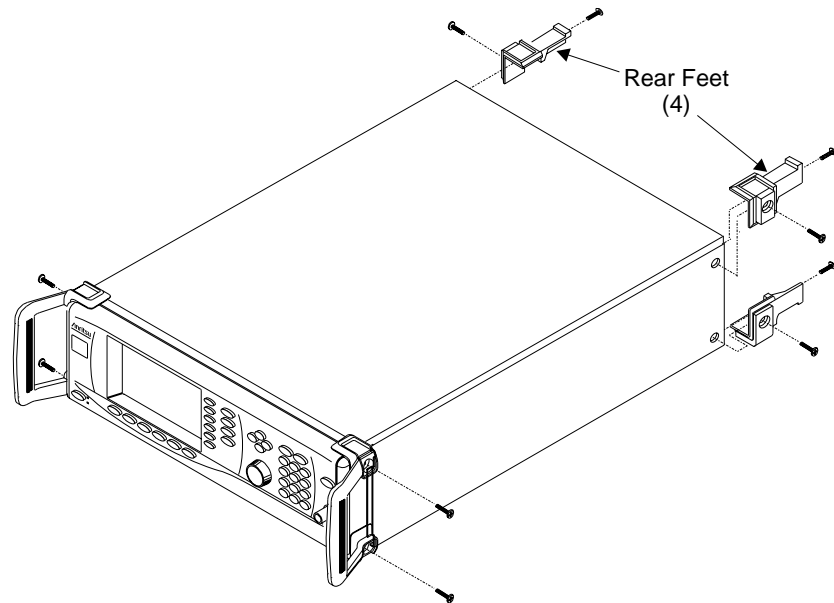

Figure 6-1. Front Handle and Rear Feet Removal
Step 1. Use a Phillips screwdriver to remove the screws and the front handle assemblies from the instrument (see Figure 6-1). For models not having front handles, remove the screws and the front top and bottom feet from the instrument. Retain the screws.